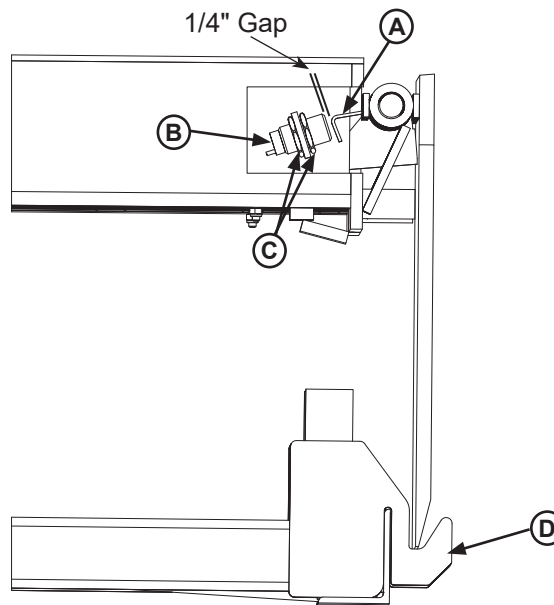

Figure 31
Stored - Lip plate is resting in the lip keepers (**D**). In the stored position, target (**A**) is directly in front of the sensor (**B**). See **Figure 31**.
2. When the sensor and target are positioned correctly, the target should be parallel to the face of the sensor with a gap of 1/4", when the lip is in the stored position. See **Figure 31**.